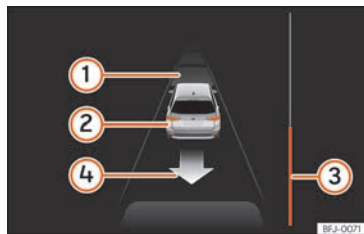

Fig. 286 On the instrument panel display: exit a parallel parking space.
- Reverse until the continuous ParkPilot signal sounds; **OR:** reverse until the instrument panel display shows the forward indication. The progress bar »» » **Fig. 286**  indicates the distance to cover »» » **page 312.**